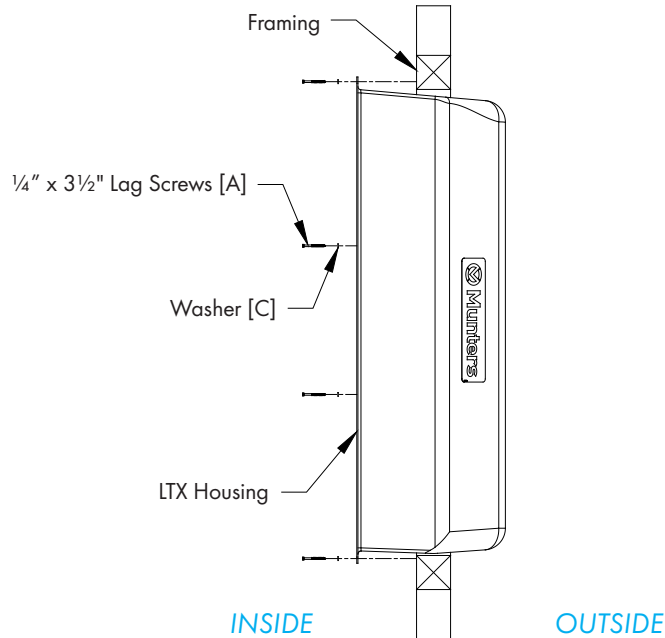

Figure 2A
Insert LTX Housing into the framed opening from the inside. While Box sits on bottom framing, fasten top of Box with (5) Lag Screws [A] and Washers [C]. Next, fasten bottom of Box using (5) Lag Screws [A] and Washers [C], then both sides using (4) Lag Screws [A] and Washers [C] in the center 2 holes in each side flange. See Figure 2A and 2B. Install flashing around opening tight to LTX Housing and caulk around Box to seal.